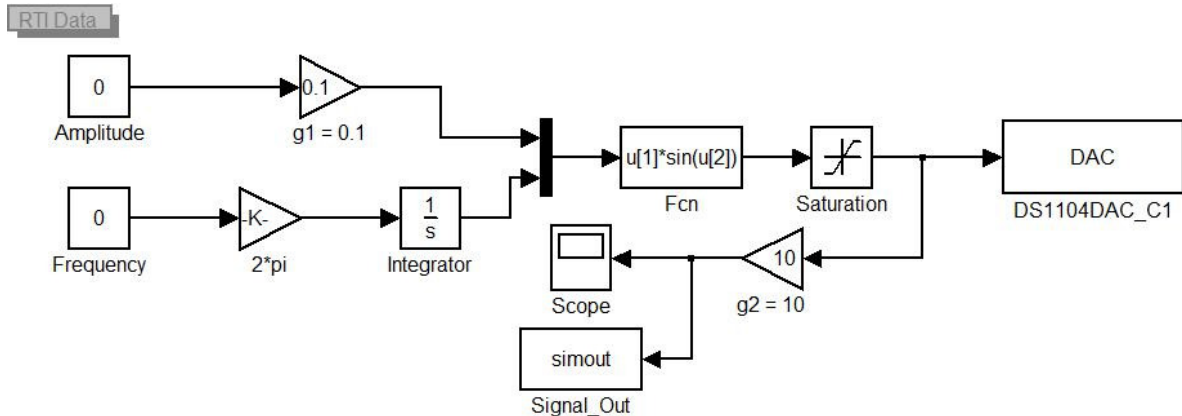
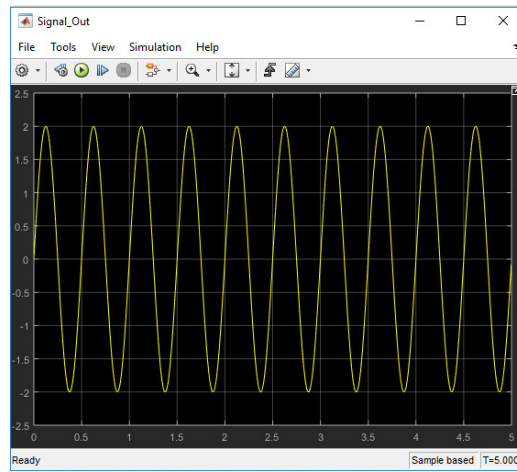

Figure 4: Simulink model for sine wave – blocks connection
Figure 5: Sine wave output from the Simulink model seen on the scope
Begin by generating a sinusoidal signal using Simulink. (Make sure to select DS1104 when prompted upon opening MATLAB.) Open a new model page in Simulink by clicking on **File > New > Model** in MATLAB, or by clicking on the Simulink icon and then **Blank Model**. Now that the Simulink page is open, the Simulink library browser can be accessed by clicking on the Simulink icon or through **View > Library Browser**. This library contains all of the necessary blocks to design Simulink models, which can be added to the model by copy and paste or drag and drop. Save the model in a folder that you can have access to later. The model will be used when building the user-interface in the dSPACE Control-Desk. Place the Simulink blocks as follows, using Fig. 4 as a reference.
- h. Connect all of the blocks and change the names as shown in Fig. 4. In order to connect two blocks, hover the mouse over the small arrowhead on the side of the block. When the mouse becomes a cross, click and drag over to the block where the connection is desired. A solid line should form with a filled black arrowhead at the connected end as shown in Fig. 4. Also note that if there is a red dashed line, no connection has been made. Connections to the middle of a line can be done in the same way as between blocks.
- b. To verify the functionality of the model before building it, the sine wave can be observed in the simulation with the use of a scope block. Drag and drop a *Scope* block from **Simulink Library Browser > Simulink > Commonly Used Blocks > Scope**. Connect the scope to the gain block $g_2=10$, as shown in Fig. 4. Change the value of frequency and amplitude constant blocks to 2, as described in *II.i.a*. Click on the play button in the Simulink toolbar above the model. The signal can be seen by double-clicking on the scope block. Fig. 5 shows the sine wave in Simulink. In order to show this plot, change the stop time from **inf** to **5** then click play, the signal should appear when finished. Use the *autoscale* (binoculars) icon in the scope window to view as shown.